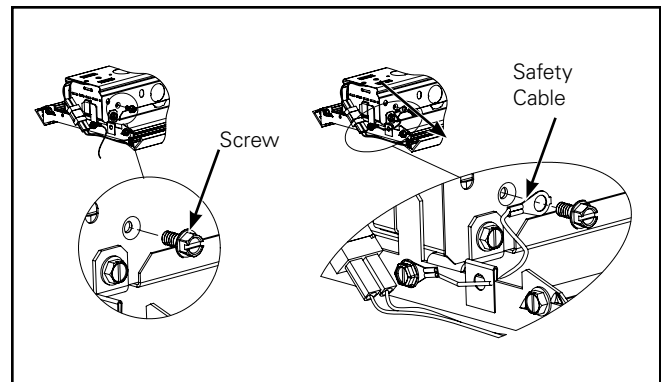

Figure 6.
- To install safety cable remove screw from channel assembly and reattach safety cable with the same screw. (Figure 6.)